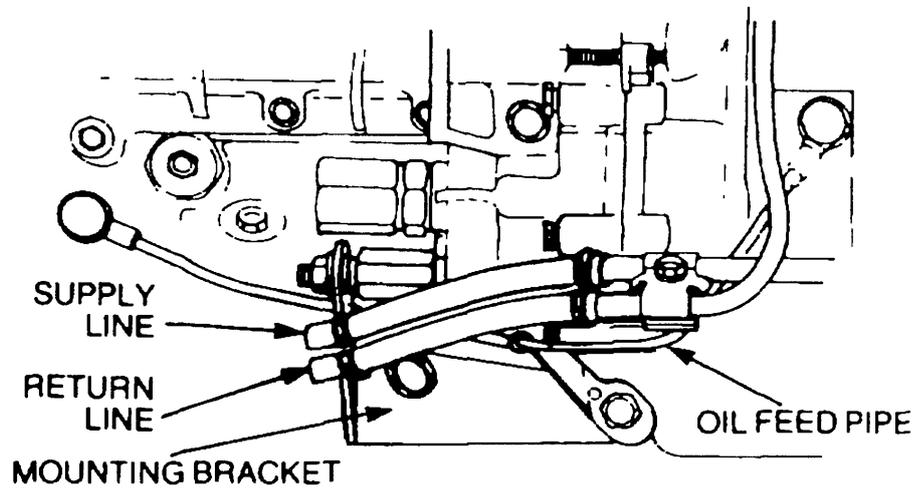

Figure 23 Engine Fuel Lines Disconnection
- e. Loosen the hose clamps securing the return and supply lines to the engine (Figure 23).
- e. Tighten the hose clamps that secure the supply and return lines to the engine (Figure 23).